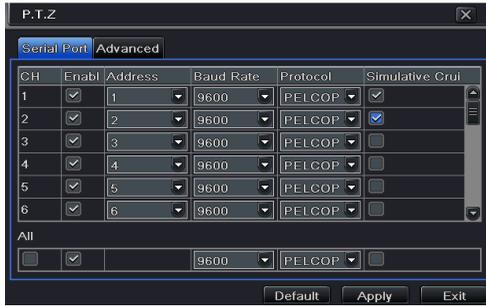

Fig 4-32 P.T.Z Configuration-Serial Port
Step 1: Enter into Menu→Setup → P.T.Z →Serial Port interface. Refer to Fig 4-32: